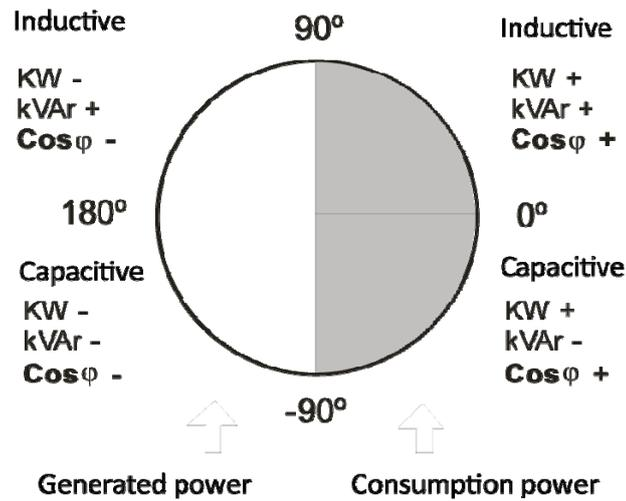

Fig. 2.1.- Signs in 4-quadrant measurements
- 4-quadrant control (see Fig.2.1), with indication about the connected stages, indication of the $\cos \varphi$, power and reactive power signs (inductive \sim or capacitive \dashv)